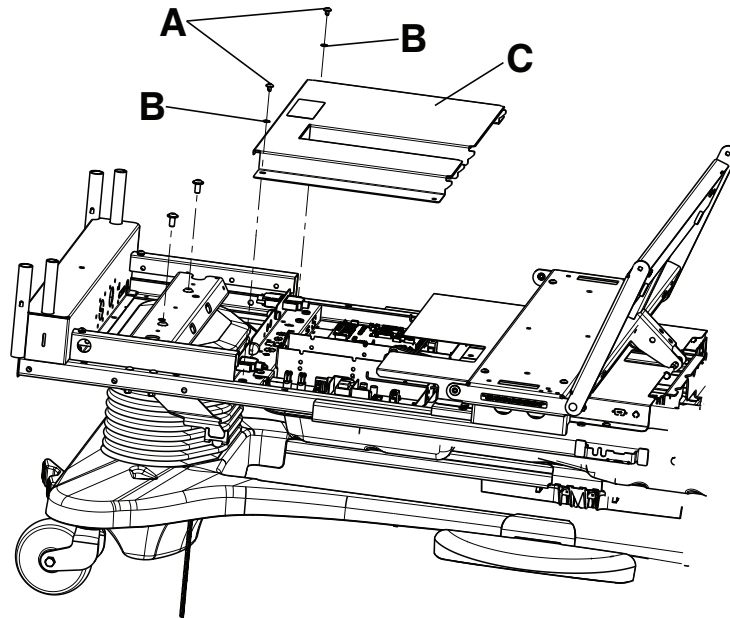

Figure 21 – Replacing the power supply
4. Using a T27 Torx driver, remove the two screws (A) and lock washers (B) that secure the electrical litter cover (C) to the stationary litter frame (Figure 21).